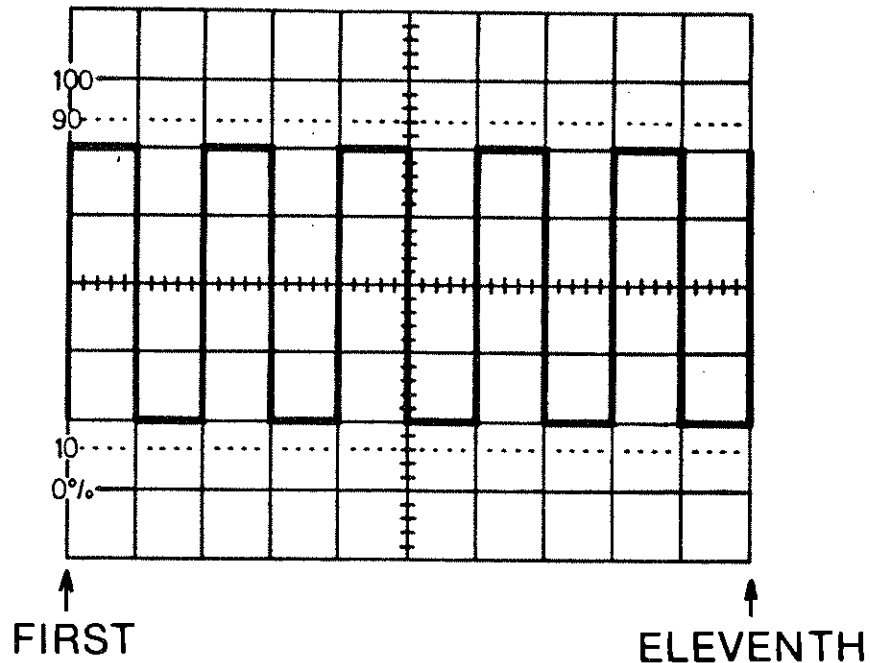

Figure 4-1. Six Leading Edges Shown with First and Eleventh on Graticule Lines
5. Verify six pulses with leading edge of first and sixth pulse on first and eleventh vertical graticule lines, respectively (+10%), as shown in Figure 4-1.